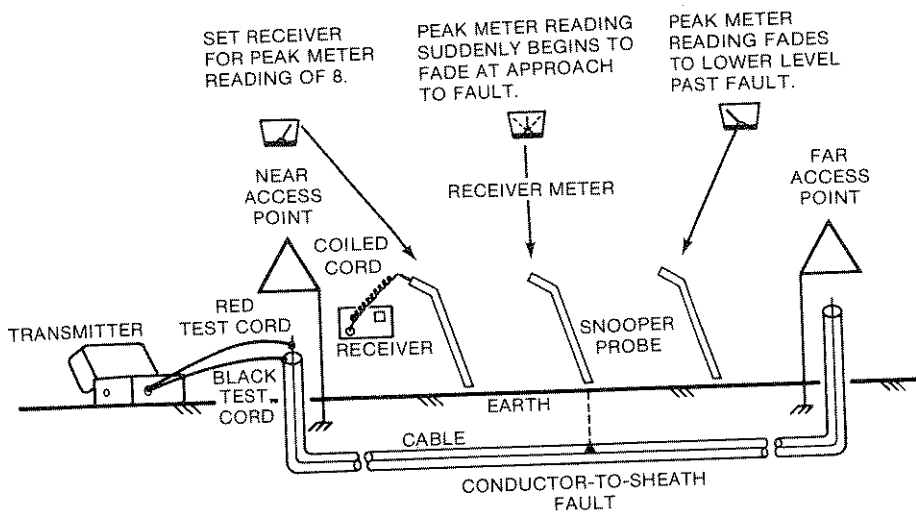

Figure 3-5.
4. Plug the jack end of the red/black test cord into the RED/BLACK TEST CORD jack receptacle on the transmitter (see Figure 3-5).